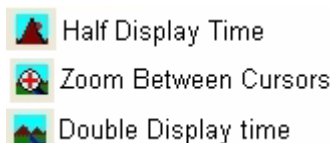

Figure 1-1: The Display Time icons on the *DataTrax2* Main window toolbar.
- 1 **Display time** is simply the amount of time represented by one full screen of data that you see on the monitor. When the program opens, the default display time is set to 10 seconds. You can change the **display time** by using the **Half Display Time**, **Zoom Between Cursors** or **Double Display Time** controls in the toolbar (Figure 1-1 on page 5).
- 1 Use the screen time controls (**Half** or **Double Display Time**) to provide a better view of recorded events. Click on the **Double Display Time** button (little mountain in the toolbar, Figure 1-1 on page 5) until all of the data is visible in a single screen.
a single vertical line in Figure 1-1 on page 5).